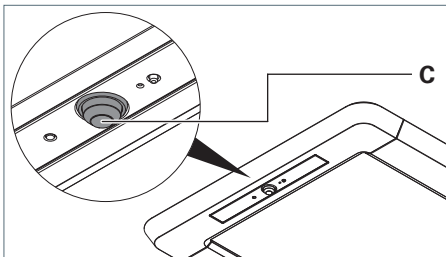
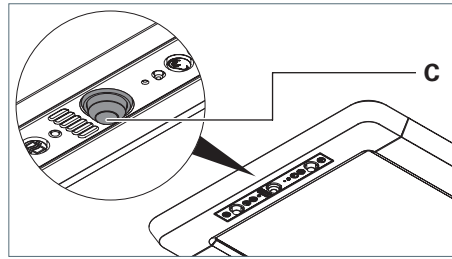

Fig. 23: PIR sensor, version R.
Fig. 24: PIR sensor, version RX.
- ▶ Set the ball head **C** of the PIR sensor to the required direction, see Fig. 23 and see Fig. 24.